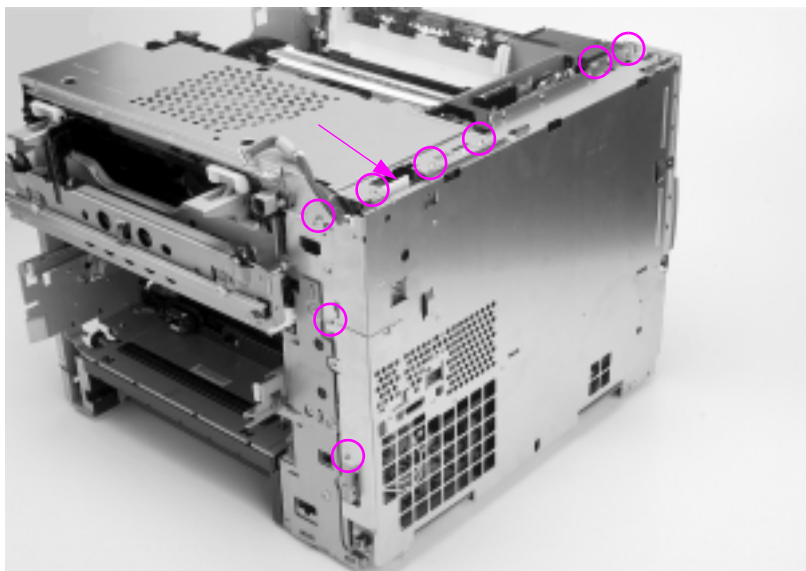
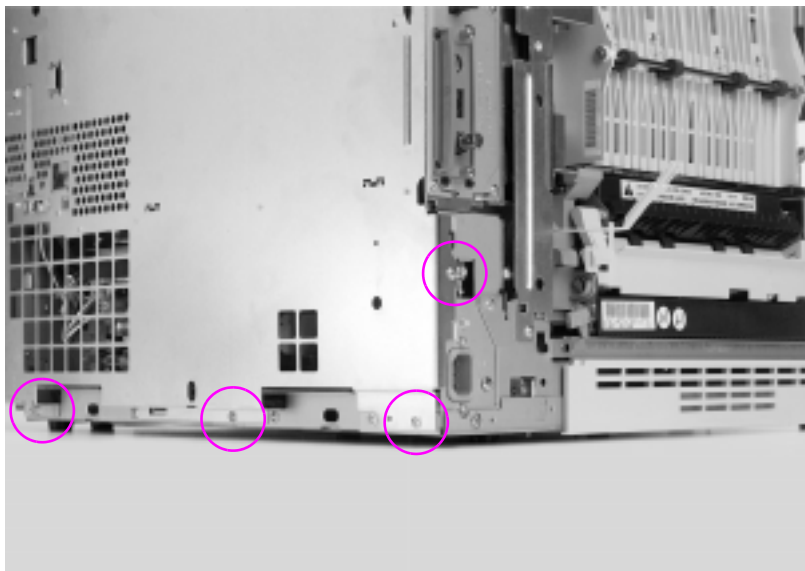

Figure 6-27 Formatter pan assembly removal and replacement (3 of 4)
Figure 6-28 Formatter pan assembly removal and replacement (4 of 4)
- 8 Disconnect the ribbon cable from the DC controller as shown in Figure 6-27.
- 10 Remove the 12 screws from the formatter pan assembly as shown in Figure 6-27 and Figure 6-28.